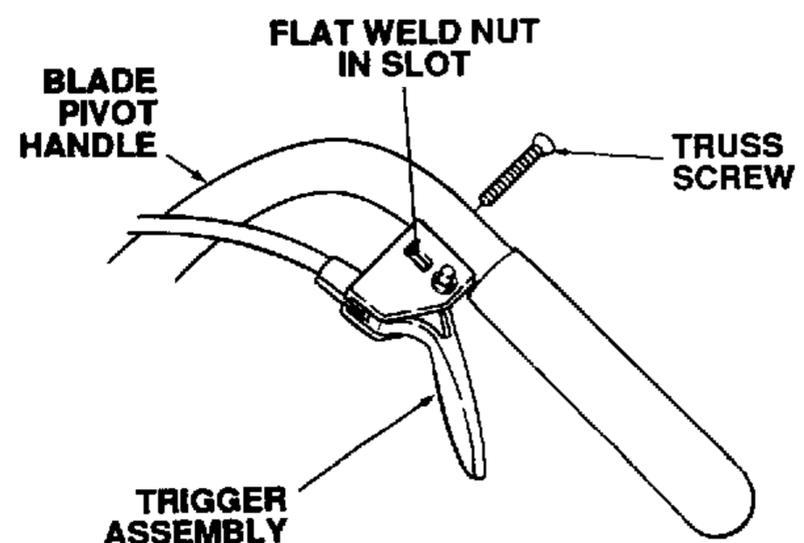

Figure 7-17. Installing Trigger Assembly.
6. While holding the flat weld nut (8) in position, place the trigger assembly (7) under the blade pivot handle (2) and fasten with the truss screw (9). See Figure 7-17.